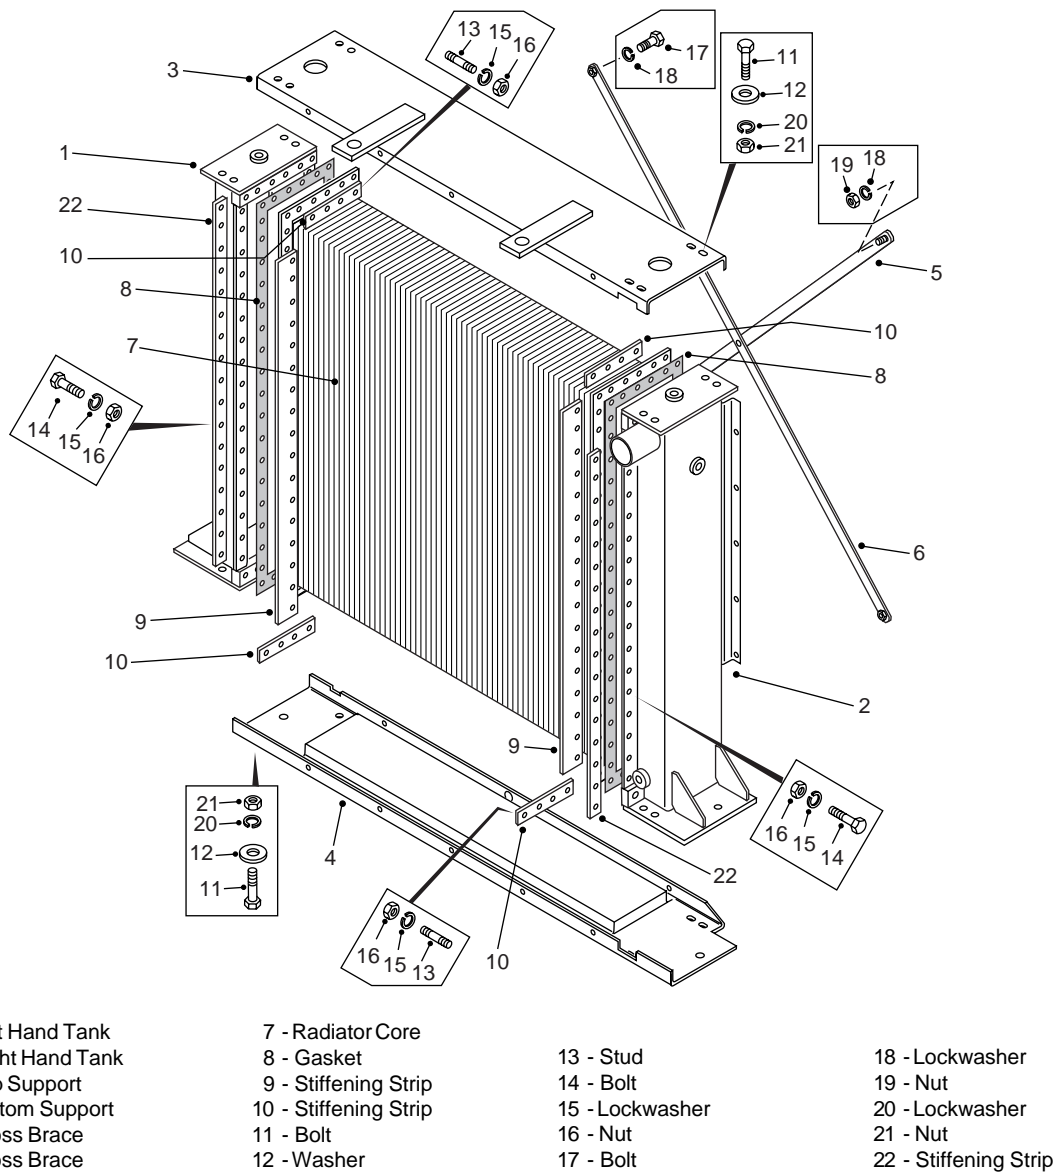

Fig. 2 - Exploded View of Radiator Assembly
A fan shroud (3) improves the engine cooling fan efficiency, provides a more uniform distribution of air over radiator core (7, Fig. 2) and helps restrict recirculation of air within the engine compartment.
Numbers in parentheses refer to Fig. 2, unless otherwise specified.
Numbers in parentheses refer to Fig. 2.